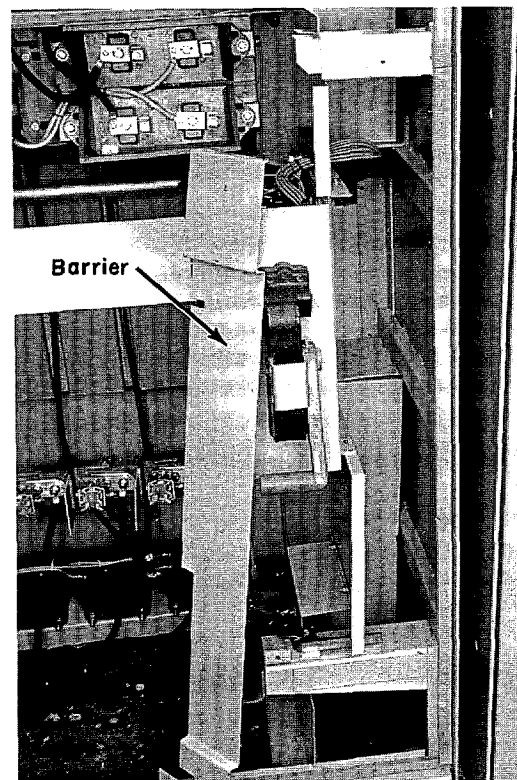

Fig. 42. Front view of right-hand side bottom with front barrier removed.
After the equipment has been set in place where it will be permanently connected, some internal disassembly is required to make the necessary external power-cable and control-wire connections. Disassembly should be done in a definite sequence by following Fig. 32 through Fig. 42, and as described below:
12. Remove the right-side barrier (Fig. 42).